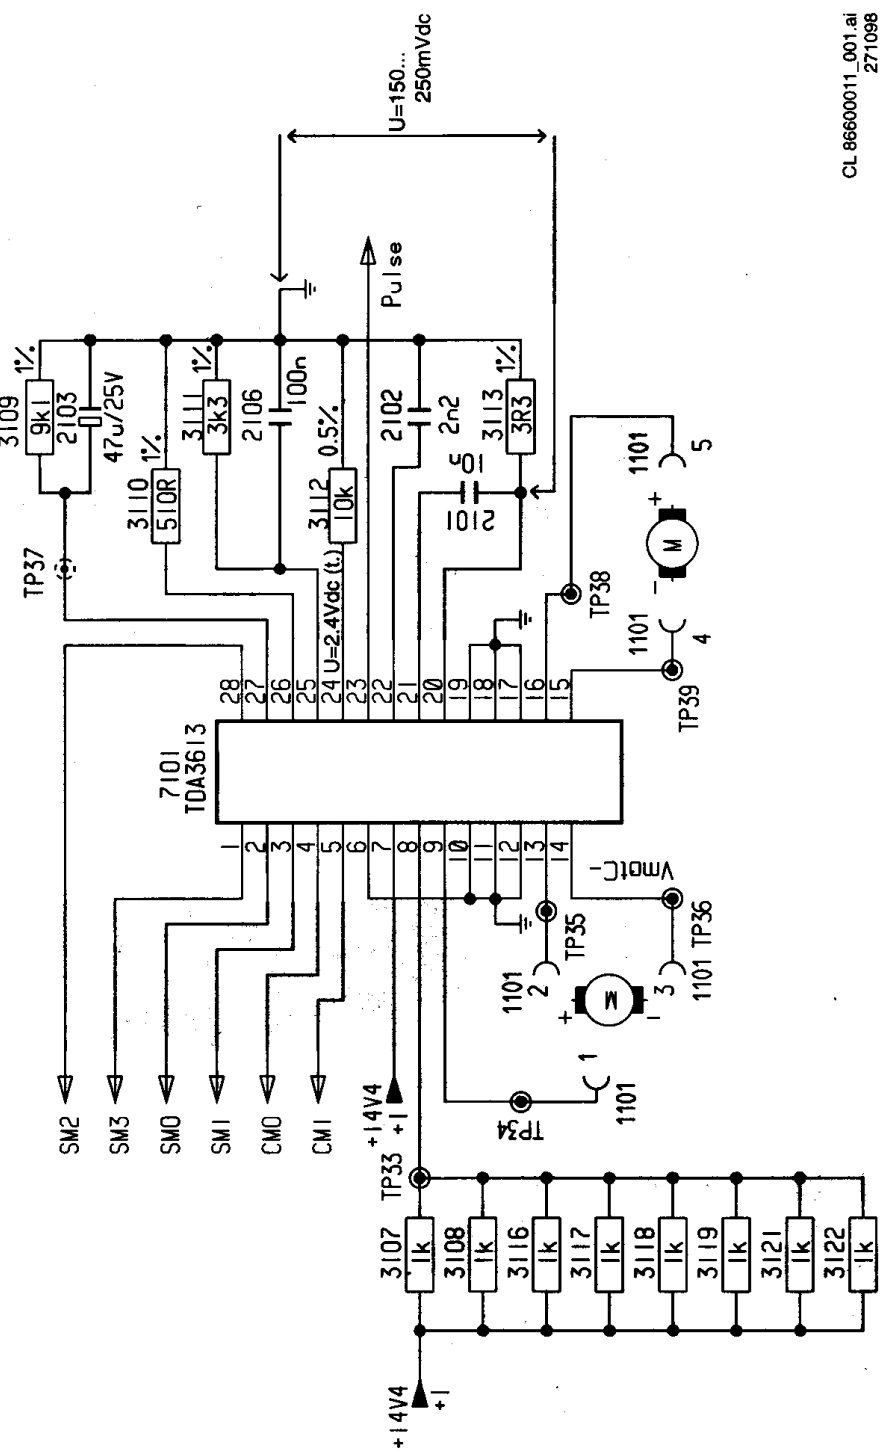

Figure 7
- **Note:** refer to figures 7 – 9.
- First check the voltage at TP3 (collector of pos. 7102). It must be equal to the normal car voltage (nom. 13.2VDC). If this value is not met, check pos. 7102 / 7103 and replace if necessary.